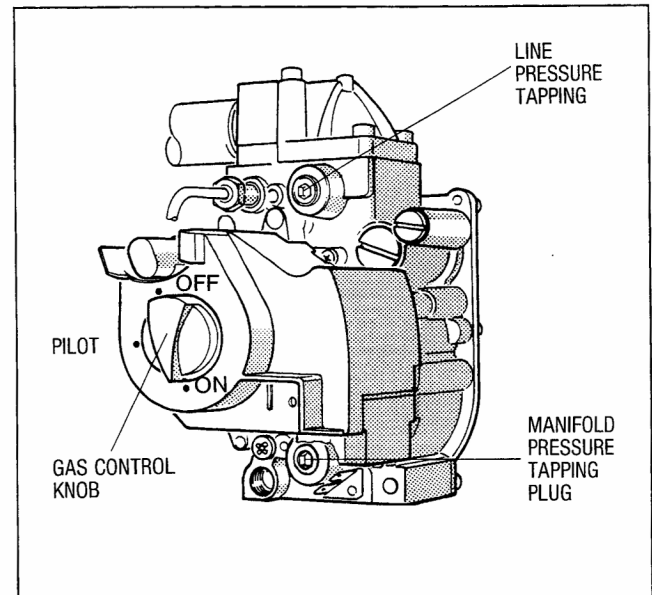

Fig. 12
8. Shut off the main gas supply shutoff valve. Remove the line pressure tapping plug from gas control, fig. 12; install a test fitting and hook up a manometer so that line pressure can be checked.
9. Remove the manifold pressure tapping plug from the gas control, install a test fitting and hook up a manometer so that manifold pressure can be checked, fig. 12.